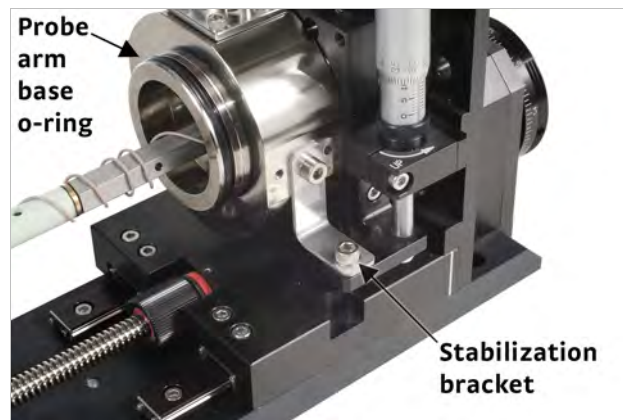

FIGURE 5-10 Orientation of the probe arm base in the z-axis stage and location of the stabilization bracket
1. Insert the probe arm base into the z-axis stage. Orient the probe arm base as shown in FIGURE 5-10, and hold it in place. Precise alignment is not necessary.
3. If you do not have a planarization assembly, using the 3 mm hex driver, tighten the M4 screw to secure the stabilization bracket to the probe arm base (FIGURE 5-10).
6. Clean the o-ring groove in the probe arm base (FIGURE 5-10). Clean, inspect and lightly grease the o-ring with vacuum grease and place it in the groove.